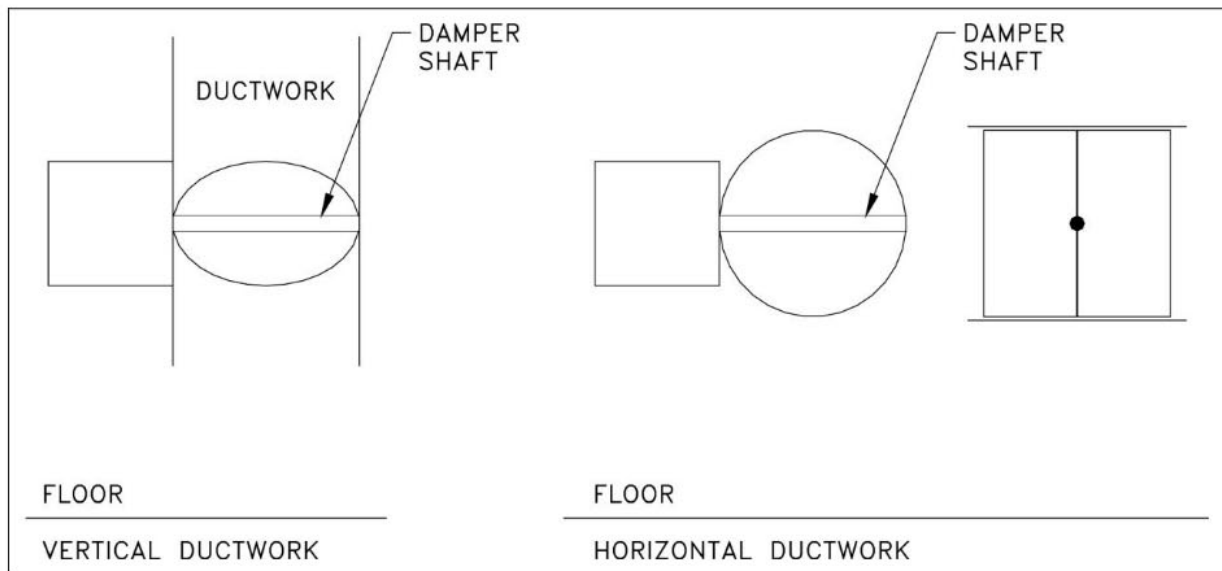

Figure 8: Proper Damper Mounting
2. The damper must be installed with the damper shaft parallel to the ground (Figure 8).